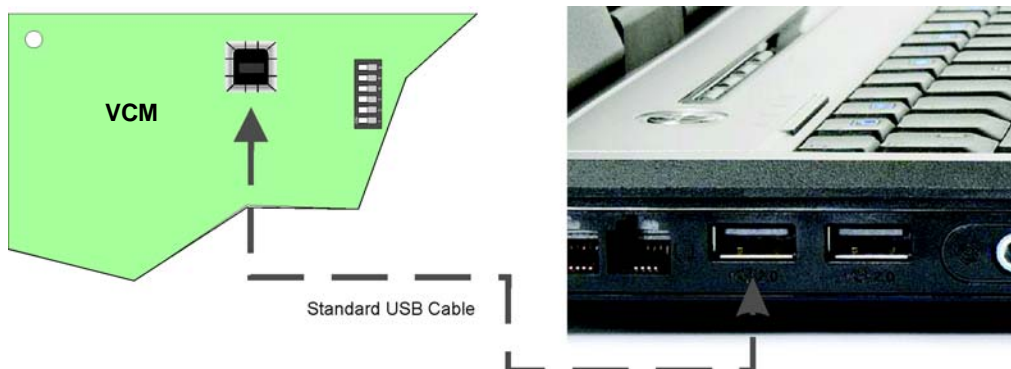

Figure 9-11 USB Cable Connections
2. Connect the PC to the panel using a standard USB cable. See Figure 9-11.